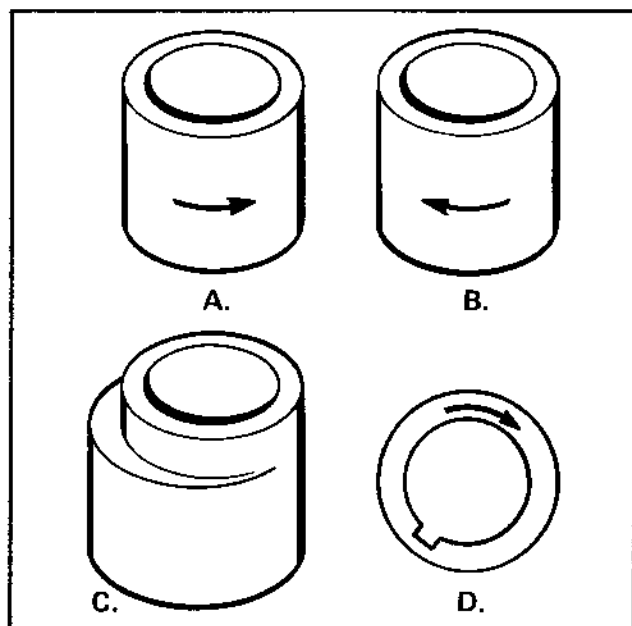

Figure 1-8
Four basic variations of cams used in two-cycle engine applications are shown in Figure 1-8. Use only the cam specified for the engine. Cams which show an arrowhead on the side are placed on the crankshaft with the arrow on the lower half (towards P.T.O. end of crankshaft). Figure 1-8 A and B. An offset cam has the step end facing the magneto end of the crankshaft (C) and the type shown in (D) has the arrow facing up toward the magneto end of the crankshaft. The arrowhead points in the crankshaft rotation.